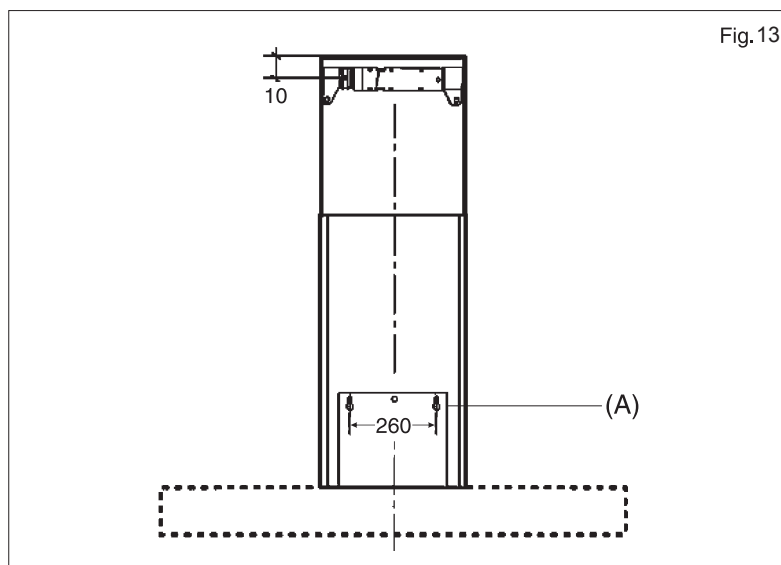

Fig.13
Drill the holes (A) according to the distances indicated (Fig.13).
Adjust the width of the support bracket of the upper flue (Fig.14). Then fix it to the wall using the screws (A) (Fig.13) in such a way that it is in line with your hood and the required distance down from the ceiling indicated in Fig.13. Connect the flange (C) to the air exhaust hole using a connection pipe (Fig.15).